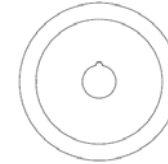

Fig. 6.2.2
- The “strip-cutting” system is made up of round blades (Fig. 6.2.2) paired with one another that cut the meat into strips; strips of different thickness can be obtained by varying the thickness of the spacers.